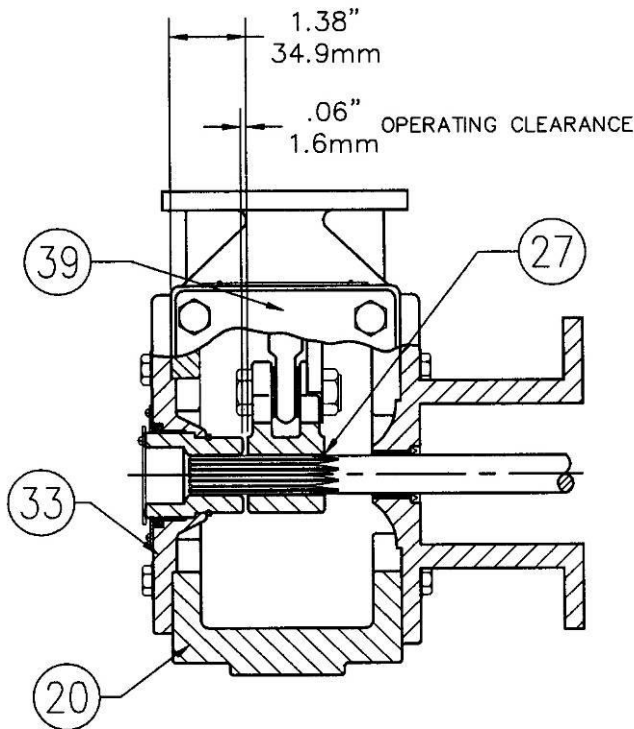

Figure 5: Lever Operating Clearance
9. Refer to the proper valve body instruction manual for lever/valve shaft orientation marks and slide the lever into place. (See Figure 5) Clamp with the cap screw (Key 10).
11. Refer to the appropriate valve body instruction manual for lever/valve shaft orientation marks, and slide the lever (Key 33) into place. See Figure 5 for correct lever operating clearance. Clamp with the cap screw (Key 10).
- Refer to the appropriate valve body instruction manual for lever/valve shaft orientation marks and slide the lever into place. Consult Figure 5 for lever operating clearance. Clamp with the cap screw (Key 10).